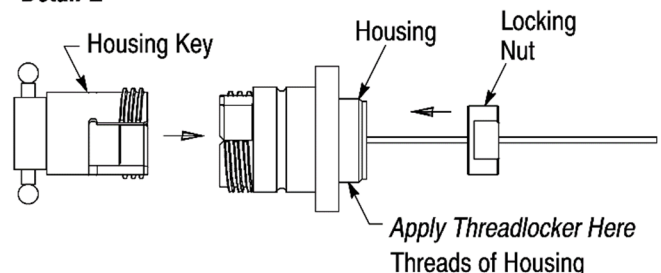

Figure 10
8. Using an applicator swab, apply a *thin film* of the grease around the O-ring on the outside of the EB insert, the front seal on the inside of the housing, and the internal O-ring of the square flange housing. Remove any excess grease. Refer to Figure 10, Detail A.
10. For mounting the connector onto the back of the panel, install the flange O-ring into the groove at the *front* of the square flange housing. For mounting the connector onto the front of the panel, install the flange O-ring into the groove at the *back* of the square flange housing. Refer to Figure 10, Detail B.
11. Align the internal key (small bar inside) of the housing with the keyway (slot along the outside) of the EB insert, and slide the fixture along with the EB insert assembly into the housing. See Figure 10, Detail C.
14. Slide the wave spring and compression sleeve into the housing. See Figure 10, Detail D.
15. Push-fit the housing key onto the housing. Using the T-handle to hold the connector, apply 2 to 3 drops of threadlocker to the threads of the housing. See Figure 10, Detail E.